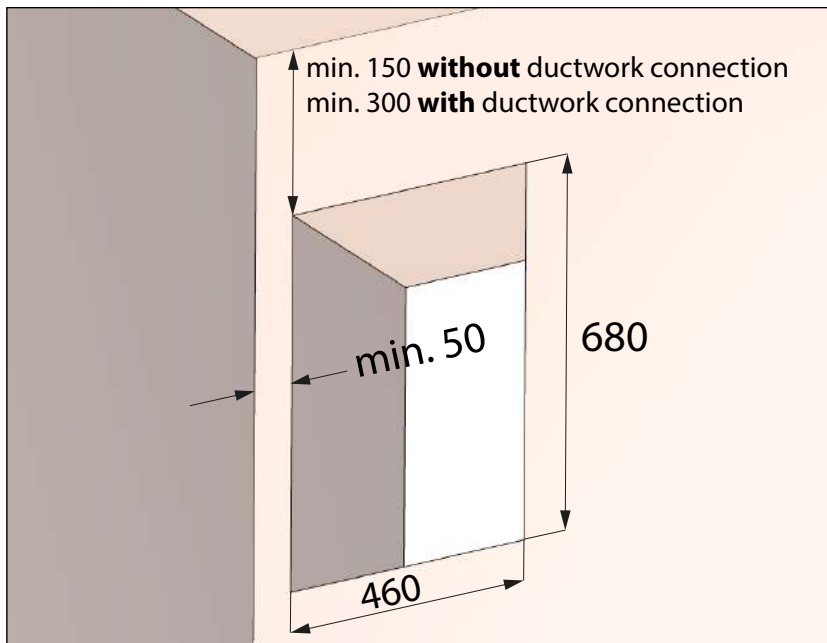

Fig. 9: Wall breakthrough for installation kit **with** filler piece, dimensions in millimetres
- Complete wall breakthrough (see Fig. 9 on page 18) for installation kit **with** filler piece M-WRG-II M/Fü